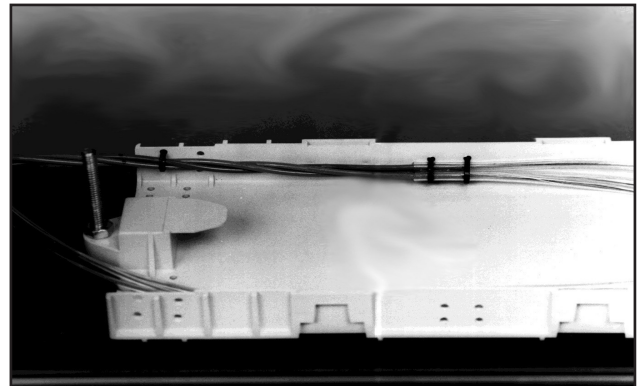

FIGURE 3- SECURING THE FIBERS TO THE TRANSITION ASSEMBLY
- 6.09** Using two of the tie wraps supplied with the Splice Tray(s), secure the buffer tubes to the back wall of the Transition Assembly. (Figure 3).